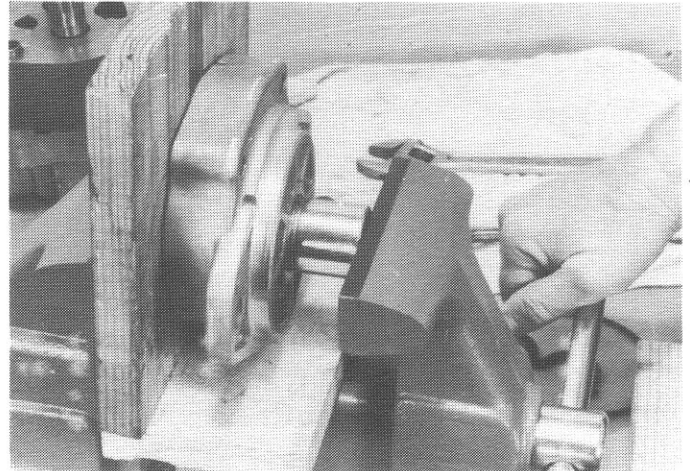

Fig. 7
12. Loosen the vise and remove the block of wood. Place a socket wrench (having an O.D. just slightly smaller than seal bore) against seal. Tighten vise against socket and press seal in until seal has just cleared snap ring groove in seal bore. Apply two or three drops of #290 Loctite against seal bore and O.D. of seal. Hold the flange at a 45 degree angle and rotate it slowly to allow the loctite to flow all the way around the O.D. of the seal. If your flange gets snap ring in seal bore, install the snap ring and wipe the excess loctite out of seal bore and any that might have gotten on seal lip. (Fig. 7)